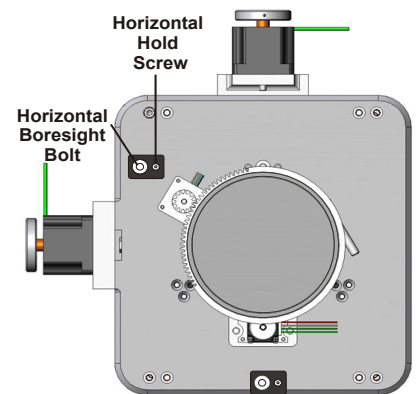
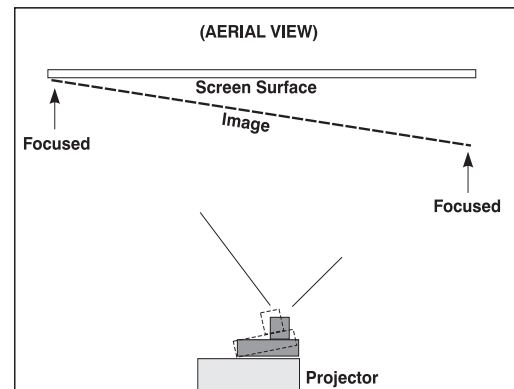

Figure 2-24 Horizontal Boresight
Figure 2-26 Aerial View Illustrating Misaligned Boresight
1. The Horizontal Hold Screw acts as counter-resistance to hold the lens mount in place once set. Before adjusting the boresight, loosen the **Horizontal Hold Screw**. See **Figure 2-24**.
- a. If the right side of the image comes into focus before the lens is completely retracted, then the image focuses in front of the screen. See **Figure 2-26**. To correct this problem, adjust the **Horizontal Boresight Bolt** to direct or aim the lens mount towards the LEFT to balance out the left/right edges. See **Figure 2-24**.
7. Adjust the **Horizontal Hold Screw** to lock adjustments in place. Check boresight again. See **Figure 2-24**.